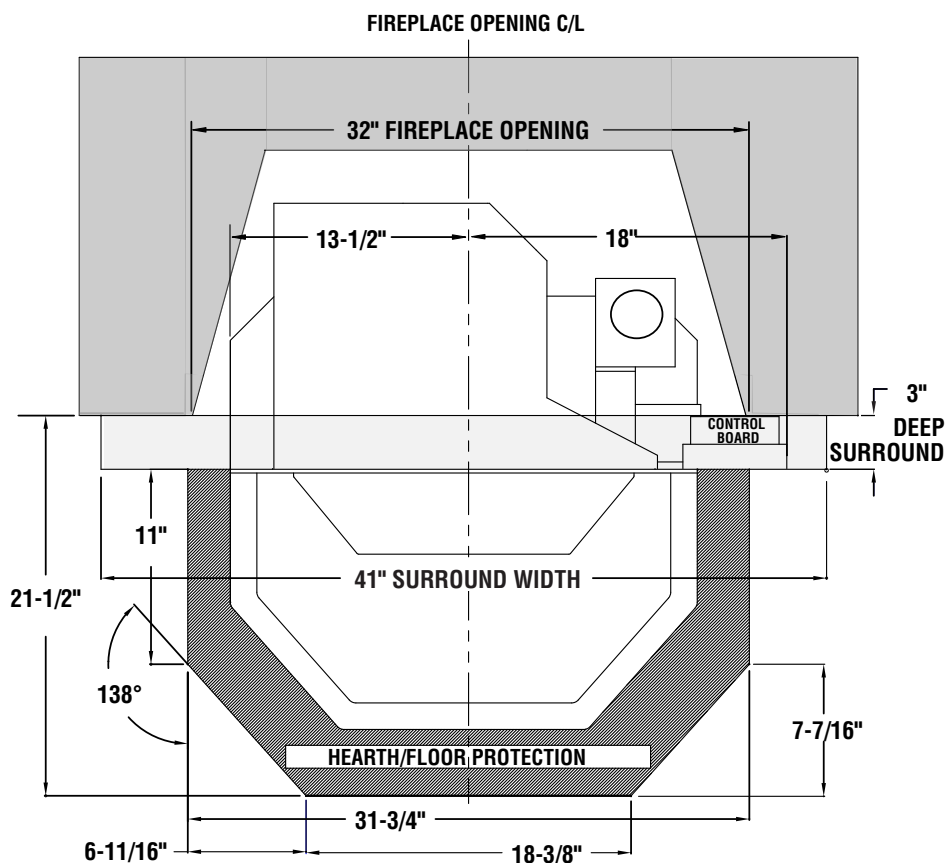

Figure 3
3. The side surround panel with the small access door for the control board goes on the right side of the insert (see **Figure 3**). Slide the slots in the side surround panels and top surround panels behind the heads of the truss screws. Tighten all six truss screws after shifting surround panels to eliminate space between the side and top surround panels.